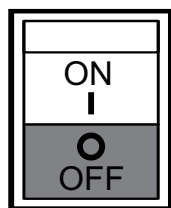

Figure 27. Idle Control switch (OFF)
2. Place idle control switch (Figure 27) in the **OFF** position.